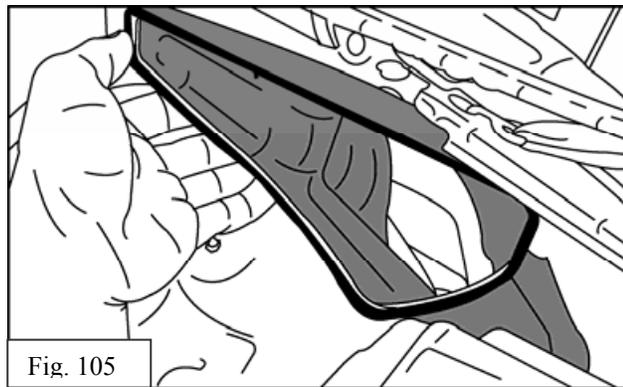
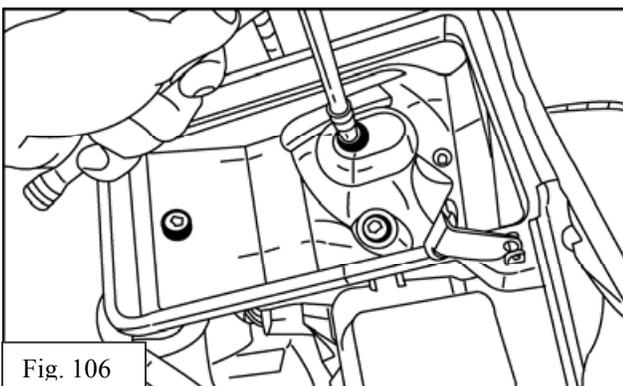

Fig. 105
Fig. 106
- (r) Install the low-profile TRD supplied spacers and grommets into the TRD supplied lower airbox. Now install airbox assembly into place, making sure that the flexible rubber inlet fits correctly into fender hole without obstruction (See Fig 105). Using the 3 OE fasteners, secure into place. **Torque to 44 inch-lbs.** See Fig. 106. Remove mass airflow sensor from O.E. upper airbox and install into TRD upper airbox using O.E. screws.